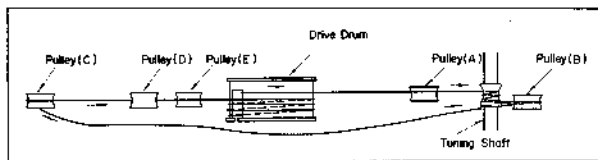

Fig. 2-7
- Run the cord over pulley A and then make two full counterclockwise turns around the tuning shaft. See Fig. 2-7.